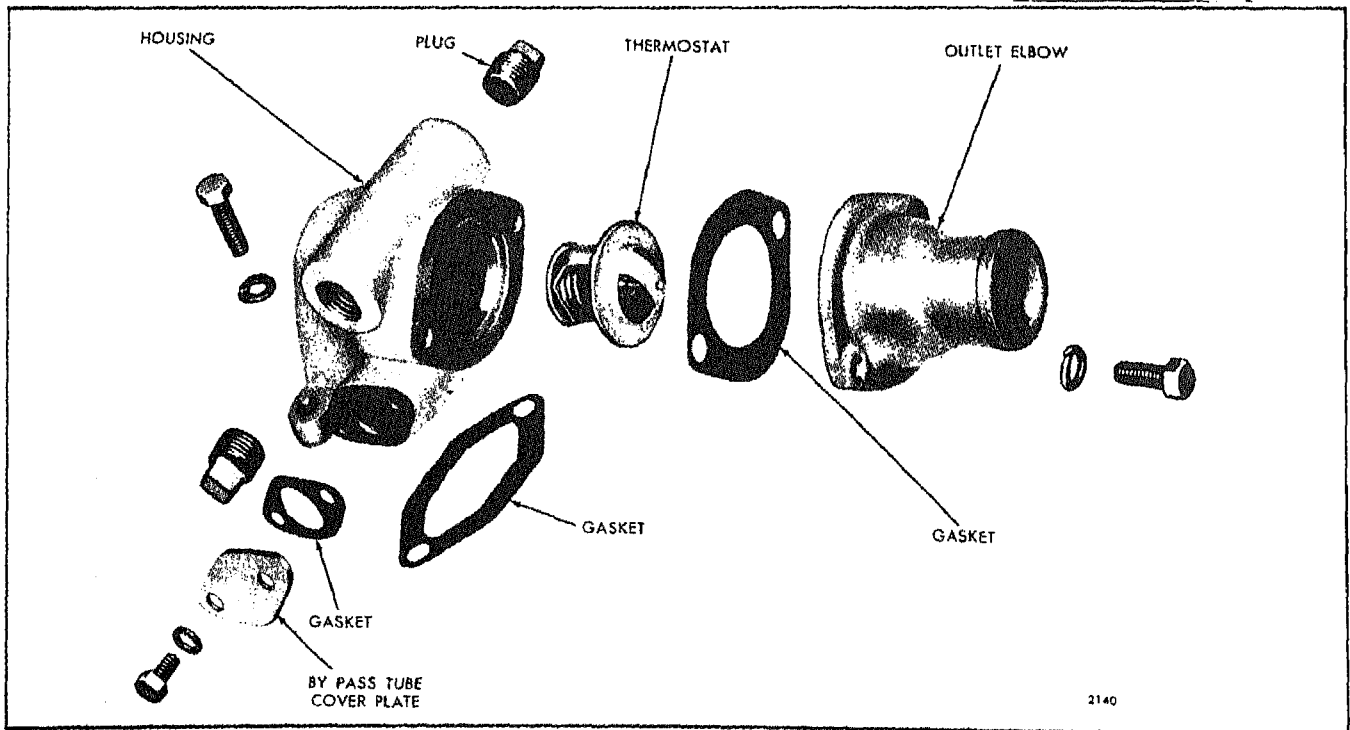

Fig. 2 - Thermostat Housing Details and Relative Location of Parts (In-Line Engine)
3. Loosen the bolts and remove the water outlet elbow from the thermostat housing on the in-line engine (Fig. 2). Take out the thermostat.
Refer to Fig. 2 and install the thermostat(s) as follows: